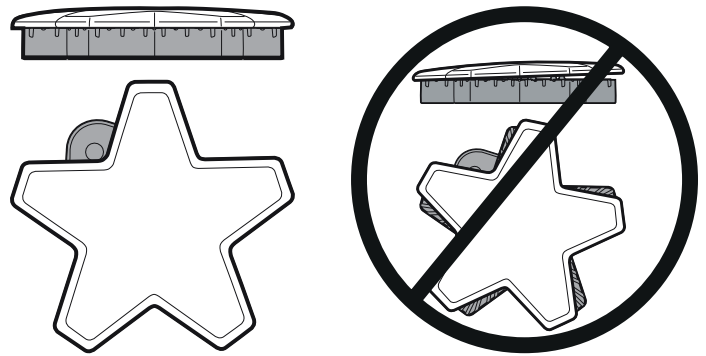

Figure 8: Correct and Incorrect Burner Cap Placement
- Check each burner to make sure there is no gap between the burner cap and burner base. See *Figure 8: Correct and Incorrect Burner Cap Placement* to see examples of correct and incorrect placements of the burner cap.
- You may gently try to move the burner caps from side to side to check if the caps are properly placed on the burner bases. When properly placed, each burner cap will rest flat on top of its burner base, and completely cover the star-shape of the burner base when viewed from the top as shown in *Figure 8*.